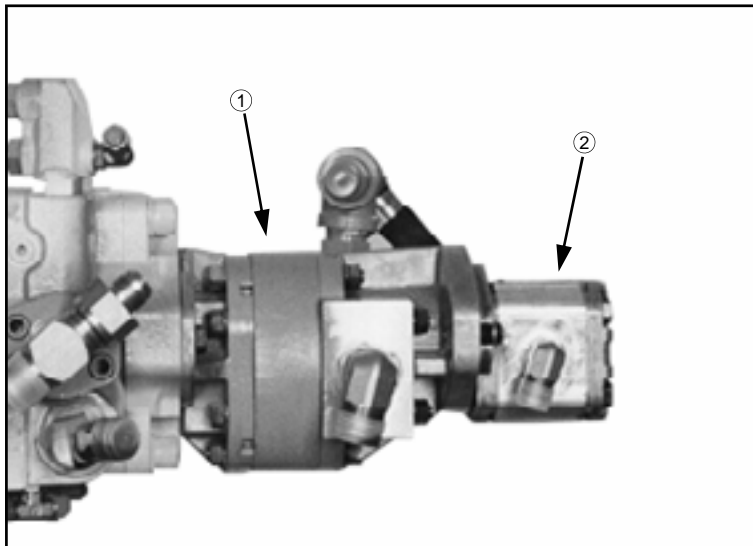

FIG 4.1
The front, larger gear pump (fig. 4.1, item 1) supplies only the cutter motors or Quad Puller motors. The rear, smaller gear pump (fig. 4.1, item 2) supplies power steering, the detasseling head lift cylinders, and the outrigger fold cylinders.